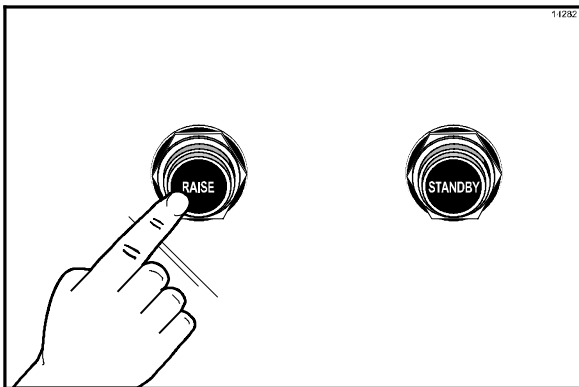

Figure 26
2. To raise the upper platen to the OPEN position to resume cooking, press the RAISE button. (See Figure 26.)